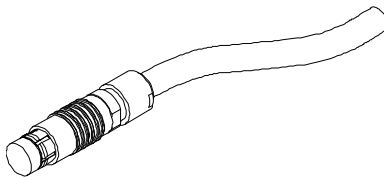

Figure M-4 The 19-pin eddy current probe connector
- The second type is a 19-pin connector (see Figure M-4 on page 182) used in multiple-coil eddy current technology probes.